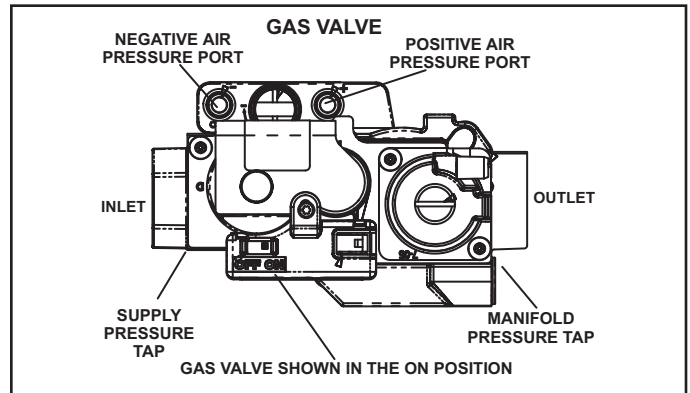

FIGURE 52
#### Gas Valve Operation (Figure 52)
- 6 - Move gas valve switch to **OFF**. See figure 52.
- 8 - Move gas valve switch to **ON**. See figure 52
- 2 - Remove the threaded plug from the outlet side of the gas valve and install a field-provided barbed fitting. Connect measuring device positive "+" to barbed fitting to measure manifold pressure. See figure 52 for manifold location.